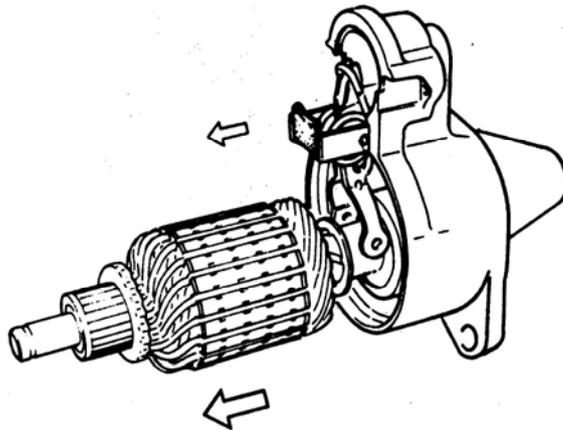

Fig.9-15
(5) Remove brush holder and motor frame.
(6) Remove armature (Fig. 9-15).